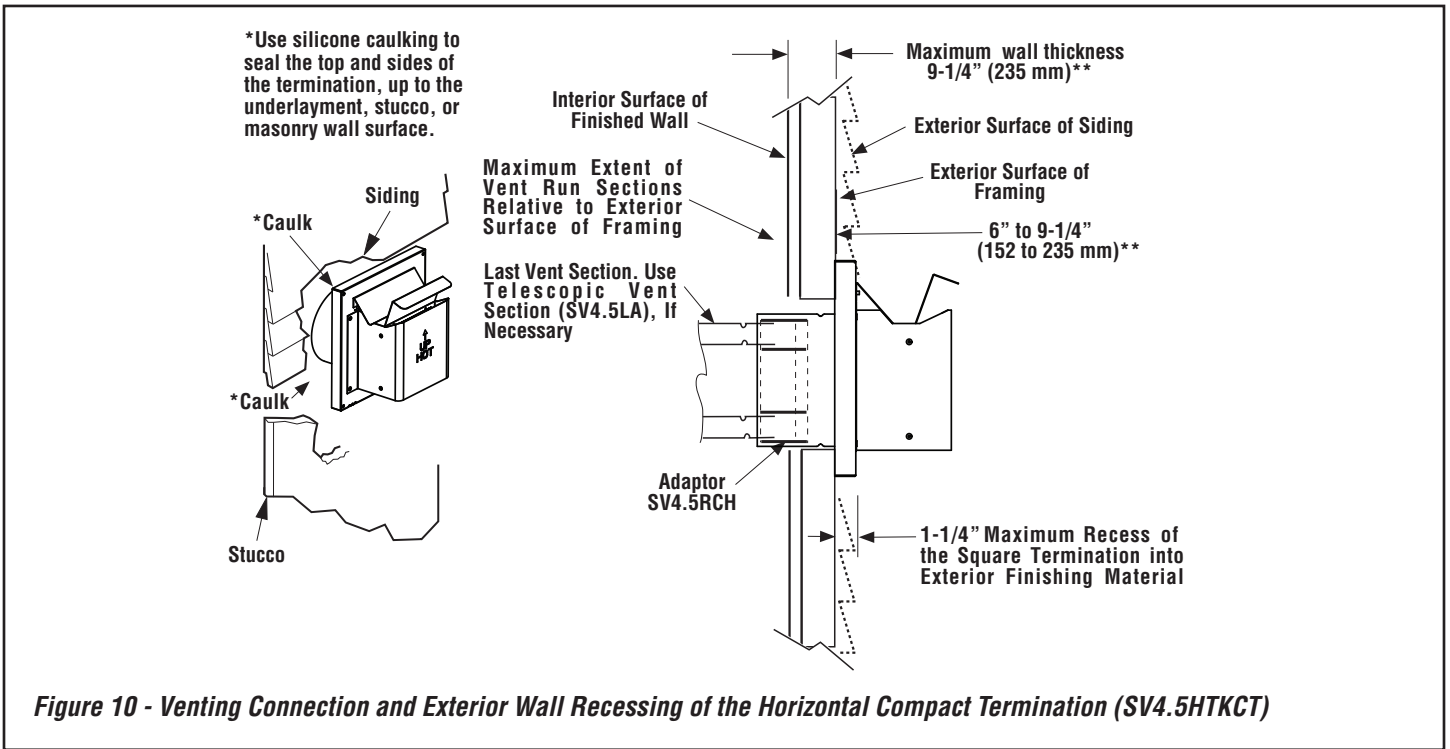

Figure 10 - Venting Connection and Exterior Wall Recessing of the Horizontal Compact Termination (SV4.5HTKCT)
1. **Install the termination (SV4.5HTKCT)**—From outside the exterior wall, slide the collars of the termination onto the adaptor (the outer over the outer and the inner inside the inner) until the termination seats against the exterior wall surface to which it will be attached. Orient the housing of the termination with the arrow pointed upwards. Secure the termination to the exterior wall. The horizontal termination must not be recessed into the exterior wall or siding by more than the 1-1/4" (32 mm) (*Figure 10, Page 15*).